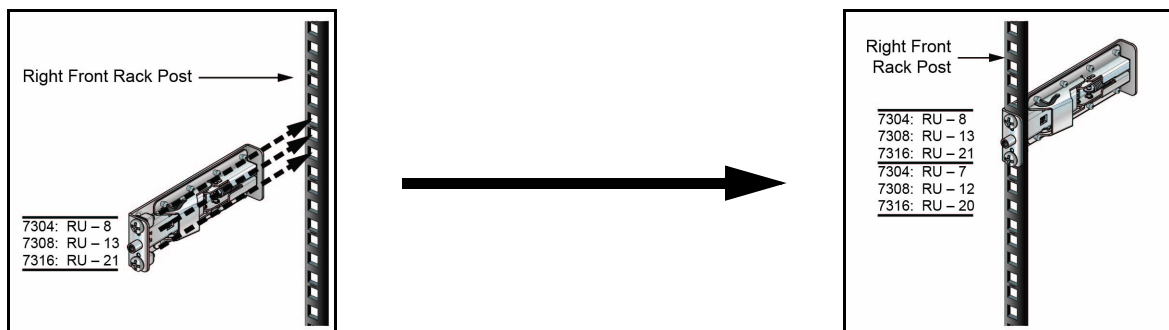

Figure 11: Attaching the Right Mounting Ear
Step 1 Install the mounting ear on the front post by inserting the front rack plugs and guide pins in the racks specified for the switch model that is being installed (Figure 11).